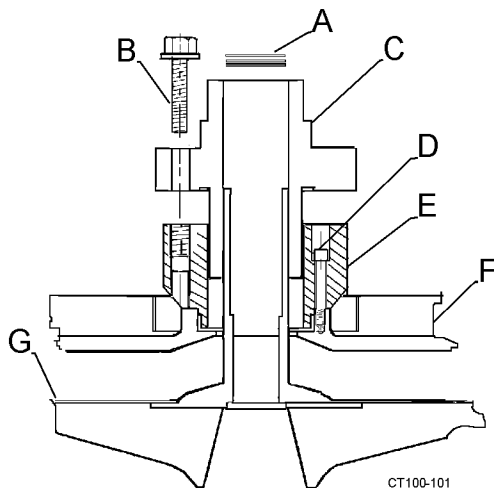
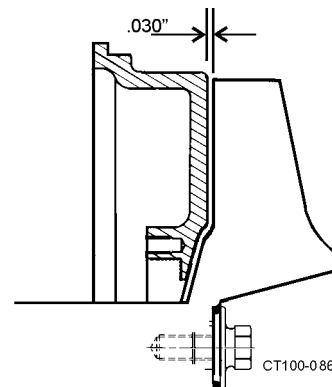

Figure 33 - Remove Seal Assembly.
Figure 34 - Clearance Between Impeller and Backplate
NOTE: The clearance shims that position the impeller within the casing are at the end of the impeller hub (inside the seal.) Keep shims together as a set for reassembly. (Figure 33).
5. Remove cap screws (Figure 33, item B) holding the cartridge seal to the seal adapter. (Figure 33, items C and E).
7. Pull seal from seal adapter. (Figure 33, items C and E).
8. Remove seal adapter by removing socket head cap screws (Figure 33, item D) holding adapter to the back plate.
2. Check impeller/backplate clearance with the backplate held firmly in position against motor adapter. Check the space between the back of the impeller and the backplate with a feeler gauge (.030 nominal) while holding the backplate tight against the bearing housing flange. (Any axial movement of the shaft should not be added to the .030 nominal clearance). (Figure 34). If needed, change this clearance by adding or removing shims. Shims (Figure 33, item A) are added on the drive shaft behind the impeller shaft (Figure 33, item G).